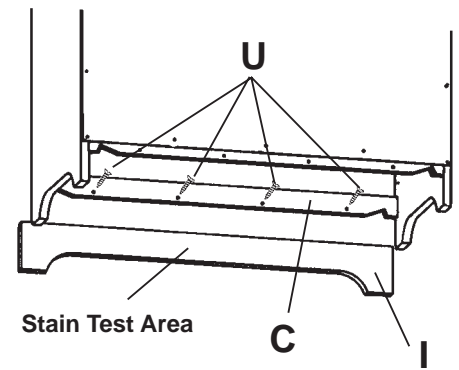

FIG. 5C
- Alder pieces—apply stain to back of base. See FIGURE 5C.
Slide the Base (I) under the lower end of the sides until it is flush with the bottom. Fasten in place with four #8x1¹/₄" Black Screws (U) through the holes in the front Sleeper (C). See FIGURE 5C.